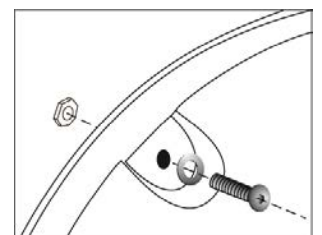

Figure 2
1. Place a 5/16 button head screw with a washer into each of the holes and attach to the flare using a nut placed on the inside. (Figure 2)